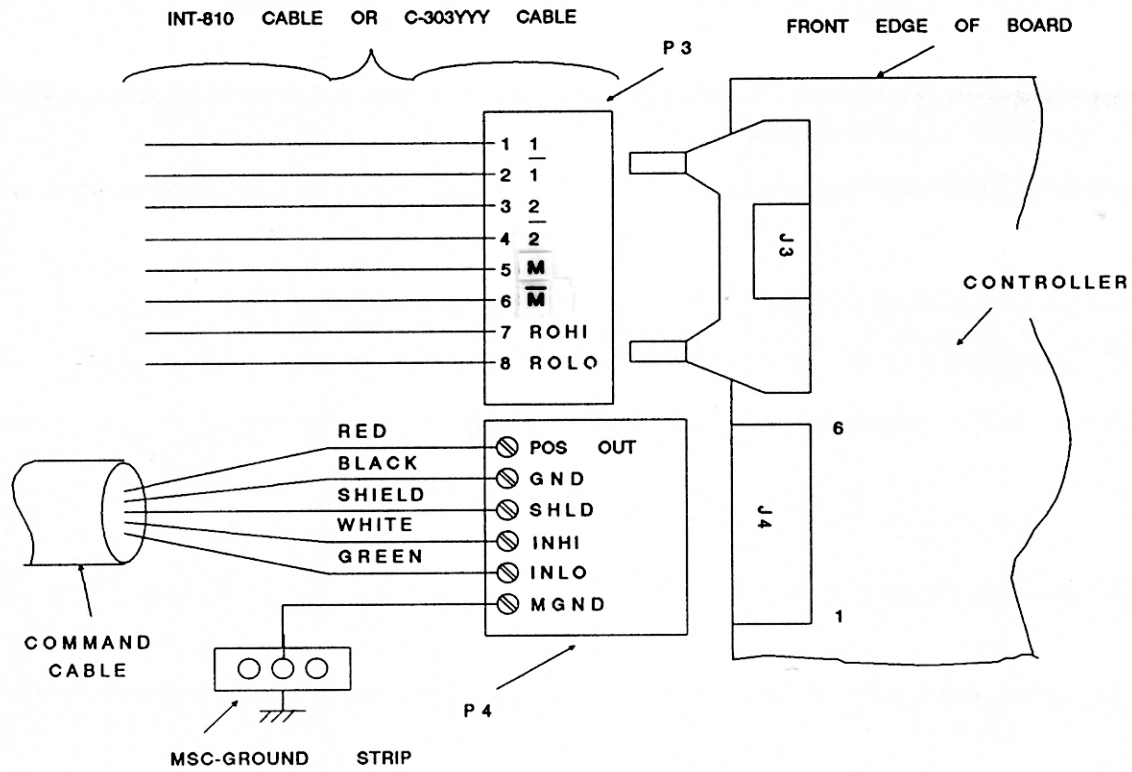

Figure 5-2 Connector Plug P4 Pin Identification
3. Connect a jumper (Figure 5-2) between P4-2 (green wire) and P4-3 (white wire)
7. While observing the shaft of the motion device, connect the red and black meter leads to P4-6 and P4-5 respectively (Figure 5-2). The shaft should rapidly accelerate in a counterclockwise direction.
2. Connect the red and black meter leads to pins 13 and 14 respectively of the INT-810 Interconnection Module (Figure 5-2).